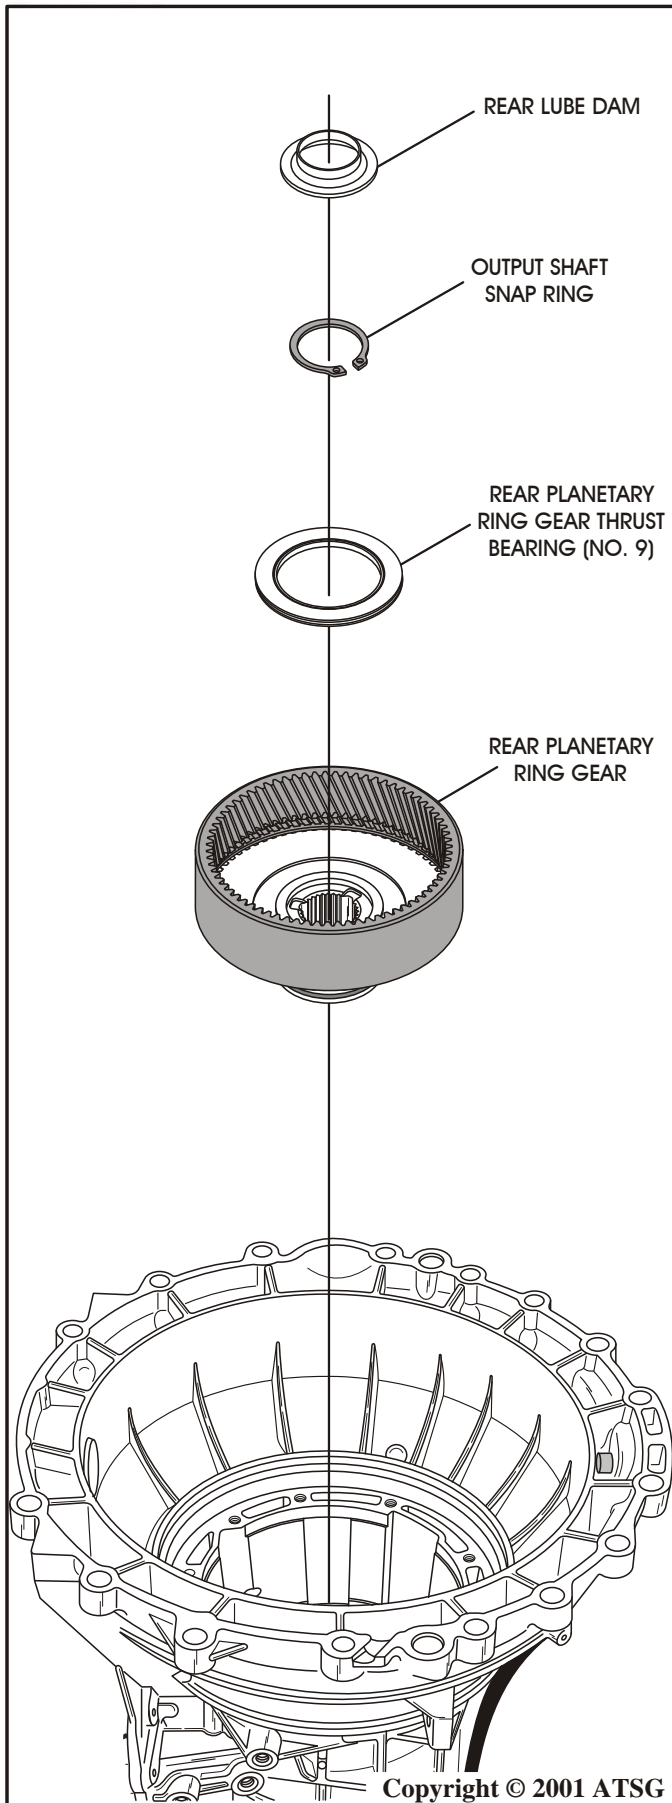

Figure 52
65. Remove the plastic lube dam from the rear planetary ring gear, as shown in Figure 52.
66. Remove the output shaft retaining snap ring from the output shaft, as shown in Figure 52.
68. Remove and tag the rear ring gear, number 9, thrust bearing for I.D. (See Figure 52).
69. Remove the rear planetary ring gear from the transmission, as shown in Figure 52.